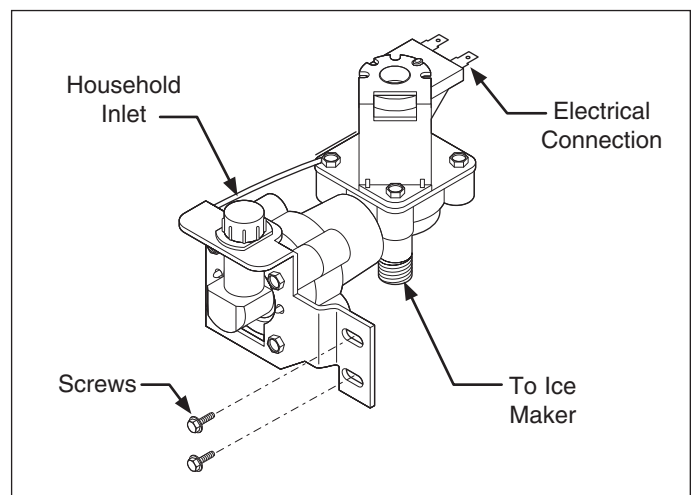

Figure 6-27. Power Cord Removal
3. Disconnect water valve from household water supply. (See Figure 6-27)